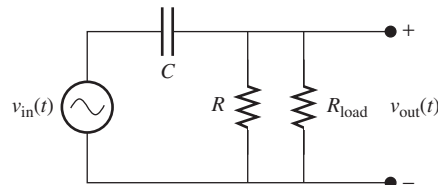

FIGURE P7.29 Circuit for Problem 7.29.
7.29 (A) A high-pass filter is used to drive a load, R_{load} , as shown in Figure P7.29. What is its break frequency and transfer function?